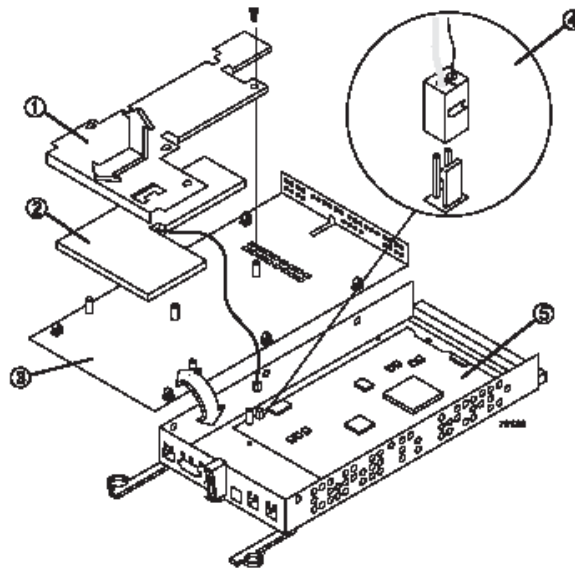

FIGURE 7-18 Removing and Installing the Controller Battery
- b. Remove the single screw securing the battery bracket, slide the bracket sideways to clear the lugs, and lift the bracket up. Figure 7-18 show the bracket in relation to the controller.**
- e. Connect the battery harness on the replacement battery to the connector on the controller board in the new controller. Figure 7-18 illustrates this connection.**